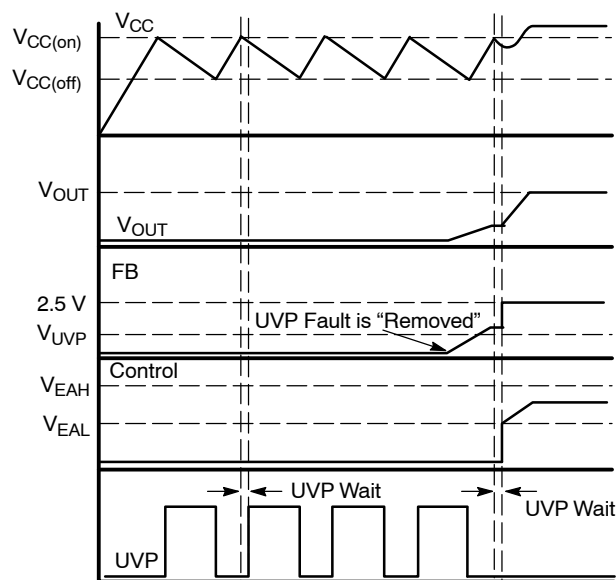

Figure 36. The NCP1607's Startup Sequence with and without a UVP Fault
Furthermore, the NCP1607 incorporates a novel startup sequence which ensures that undervoltage conditions are always detected at startup. It accomplishes this by waiting approximately 180 μs after V_{CC} reaches $V_{\text{CC(on)}}$ before enabling the error amplifier (Figure 36). During this wait time, it looks to see if the feedback (FB) voltage is greater than the UVP threshold. If not, then the controller enters a UVP fault and leaves the error amplifier disabled.